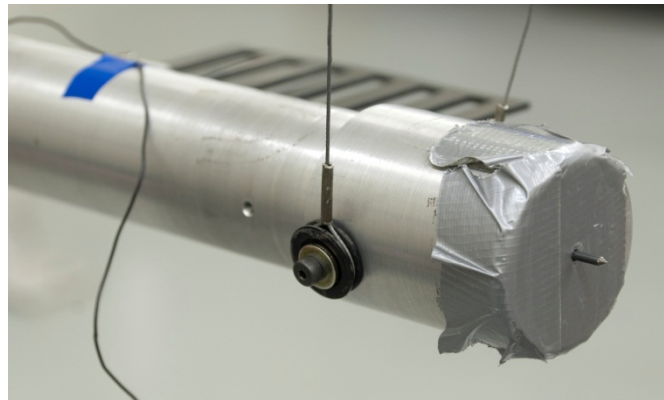

Figure 132. Pointer inserted into center of probe
- Square the bench by measuring the distance of a reference edge along the back of the bench which is parallel to the line of impact, such as the edge of the table (Figure 132). Perform this measurement at both ends of the bench. Slightly adjust bench until it is parallel to the line of impact so that both measurements are equidistant (± 1 mm) to the reference, taking care to maintain the pelvis positioning at the probe.